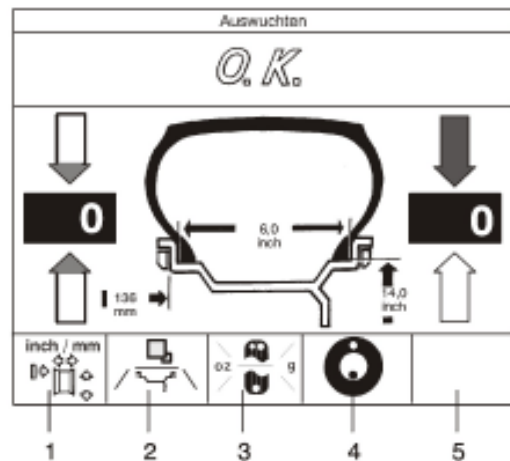

Fig. 53
After the check run both readings will be zero if the wheel is perfectly balanced, and the OK icon comes up in the information line (**Fig. 53**).
If both amount readings are zero, but there is no OK reading, dynamic unbalances below the threshold (tolerance limit) add to a static unbalance above the threshold. These residual unbalances, which are usually suppressed, will be read out by pressing the Fine key (toggle switch, Fig. 53, Item 2) on the top, and should then be balanced. The threshold for suppression of minor unbalance readings is factory-adjusted to 3.5 g for the standard balancing mode „normal,. It might be higher for other balancing modes.
- To display static unbalance press menu key 3 (Fig. 53, Item 3) at the bottom.